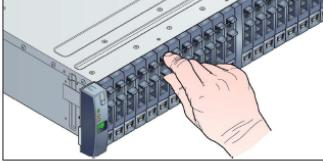

Figure 2: Removing a drive module (1)
- Release the carrier handle by pressing the latch in the handle downwards (see Figure 2).